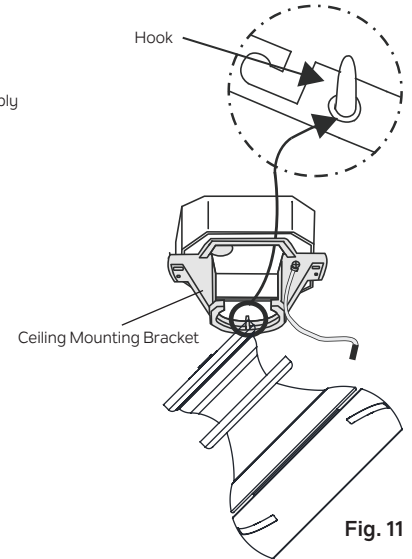

Fig. 11
Step 7. Hang the fan on the hook of the ceiling mounting bracket. Be certain that the canopy is fully locked into hook as shown in **Fig. 11**. This will allow you to make the electrical connections.